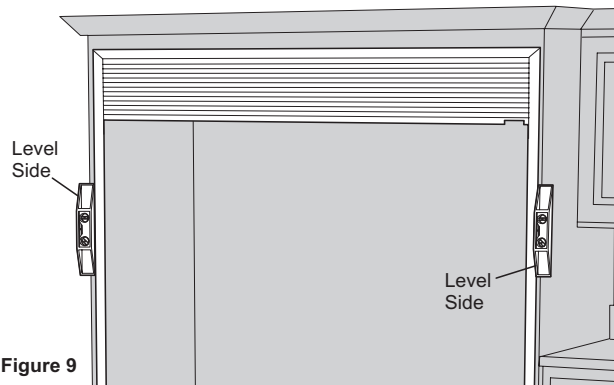

Figure 9
4. Using a carpenter's level, check that each side is vertical. Shim as necessary. Next, secure top and bottom of each side trim to cabinetry using two 3/4" mounting screws (K). See Figure 9.